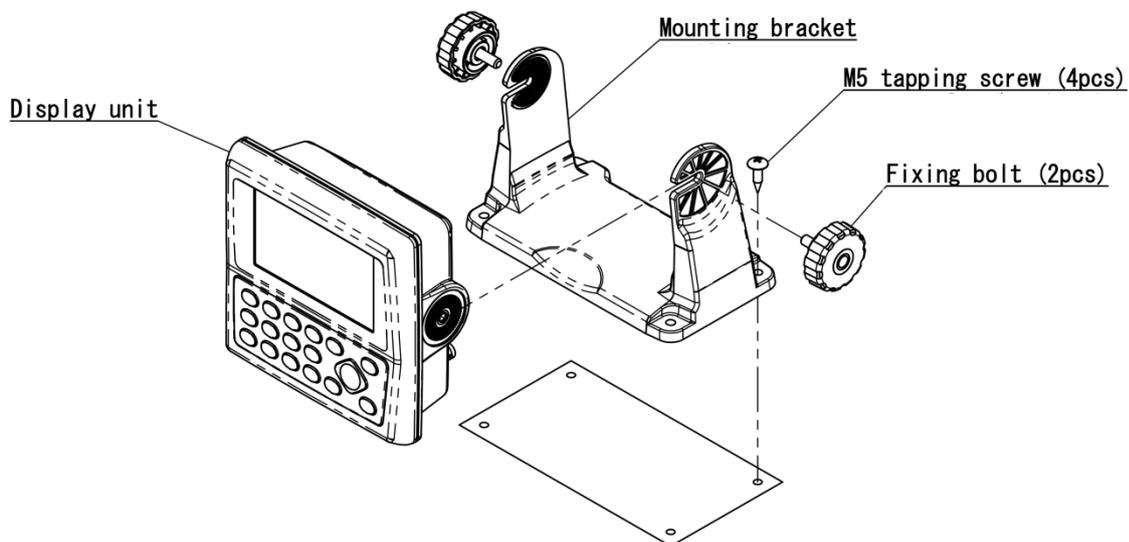

Figure 7.1 Fitting detail of KC-14 in table mounting mode
- (3) Reset the Display unit on to the bracket and fix it using the two knurled fixing knobs that were removed in step (1). Refer to Figure 7.1 for detail.